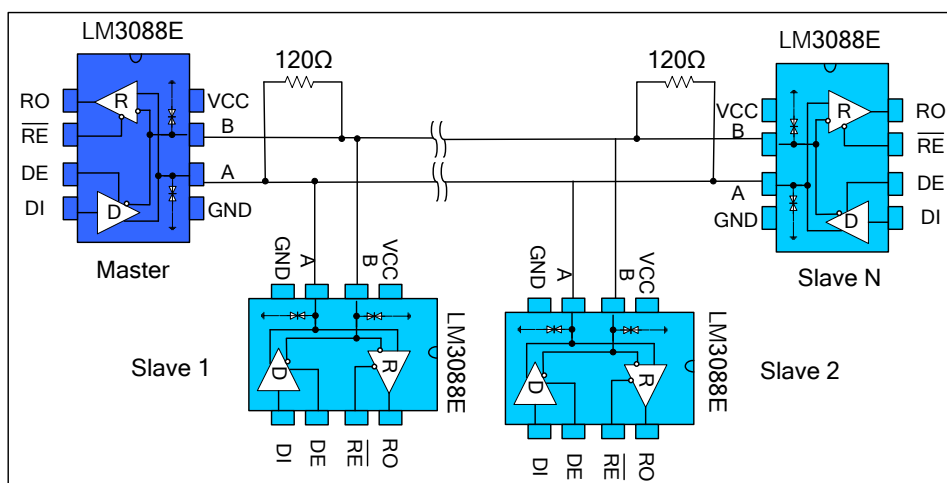

Figure 9 Bus type RS485 half-duplex communication network
4.1 Bus Networking: LM3088E RS485 transceiver is designed for bidirectional data communication on multi-point bus transmission line. Figure 9 shows a typical network application circuit. These devices can also be used as linear repeaters with cables longer than 4000 feet. In order to reduce reflection, terminal matching should be carried out at both ends of the transmission line with its characteristic impedance, and the length of branch lines outside the main line should be as short as possible.